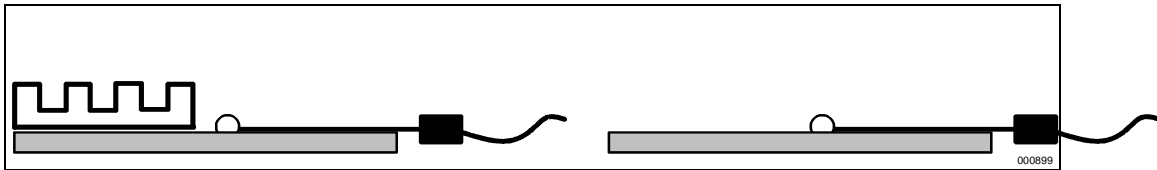

Figure 20. Technique for Measuring T_{PLATE} with 0° Angle Attachment
To ensure functional and reliable processor operation, the processor's thermal plate temperature (T_{PLATE}) must be maintained at or below the maximum T_{PLATE} and at or above the minimum T_{PLATE} specified in Table 42. Power from the processor core is transferred to the thermal plate at 2 locations on all 600MHz+ Pentium III Xeon processor products. Figure 20 and 21 shows the locations for T_{PLATE} measurement directly above these transfer locations. Thermocouples are used to measure T_{PLATE} and special care is required to ensure an accurate temperature measurement. Before taking any temperature measurements, the thermocouples must be calibrated. When measuring the temperature of a surface, errors can be introduced in the measurement if not handled properly. Such measurement errors can be due to a poor thermal contact between the thermocouple junction and the measured surface, conduction through thermocouple leads, heat loss by radiation and convection, or by contact between the thermocouple cement and the heatsink base. To minimize these errors, the following approach is recommended:
- A thermocouple should be attached at a 0° angle if no heatsink is attached to the thermal plate. If a heatsink is attached to the thermal plate but the heatsink does not cover the location specified for T_{PLATE} measurement, the thermocouple should be attached at a 0° angle (refer to Figure 20).